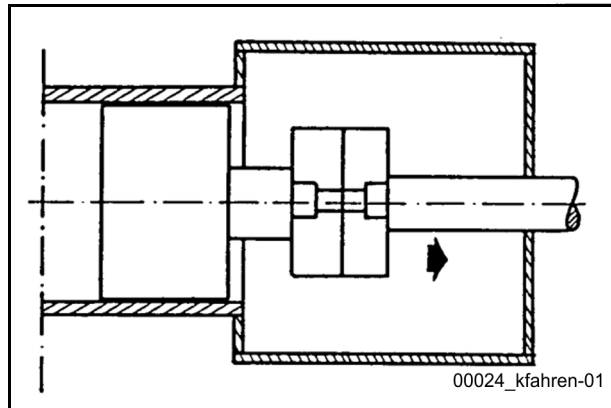

Fig. 191
- Slowly retract the piston rod, which in turn pulls the pumping piston out of the cylinder (**Fig. 191**).